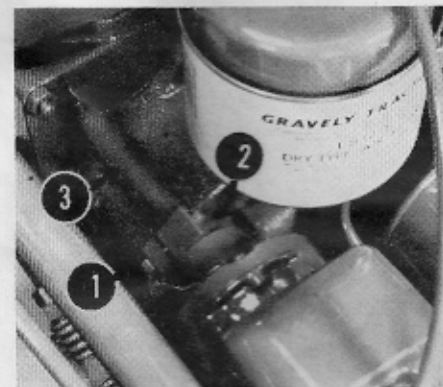

Figure 5
1. Loosen the Magneto Coupling Bolt, 1 in Figure 5, until the Coupling, 2 in Figure 5, moves on the Magneto Shaft Extension, 3 in Figure 5. It may be necessary to tap the Coupling gently.